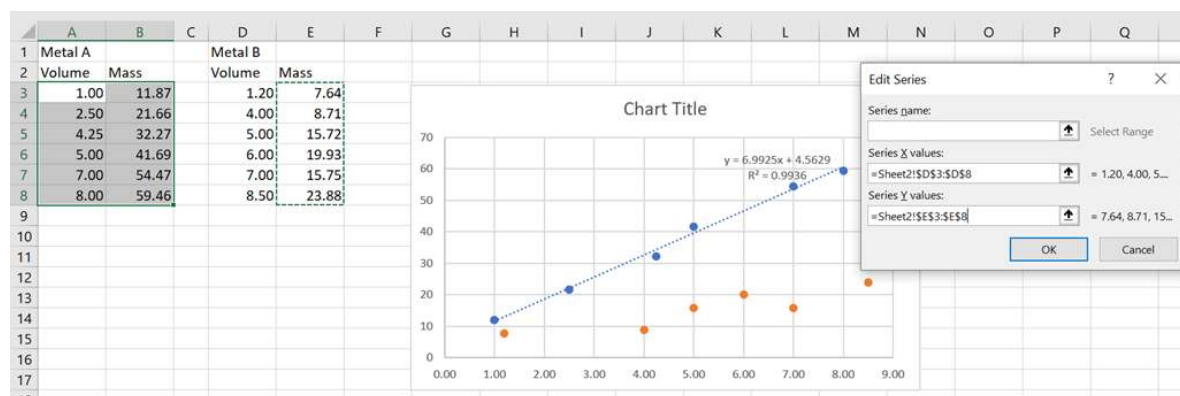

Figure 9
- Click on the box under Series X values, then highlight the x-axis values of Metal B. Press enter, then repeat this procedure for the Series Y Values, highlighting the y-axis values of Metal B. For each of these steps, you should see a display similar to what is shown in Figure 9. Note that slight differences may appear due to the version of Microsoft Excel installed on your computer.